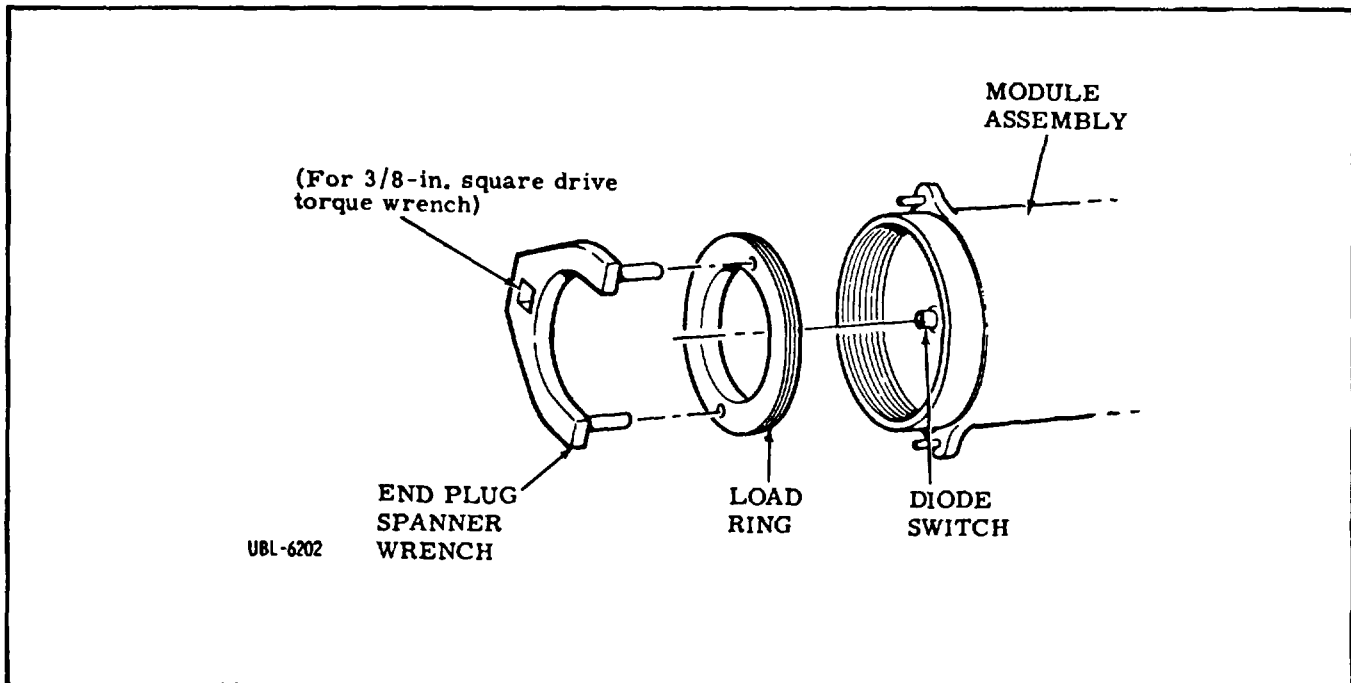

Figure 4-3C. MA56 EXTRA Y Load Ring Installation
a. Reinstall load ring. Using end plug spanner wrench (P72785-000, figure 4-3C) with torque wrench (3/8-inch square drive), tighten load ring to 10 to 15 ft.-lb. Do not overtighten.